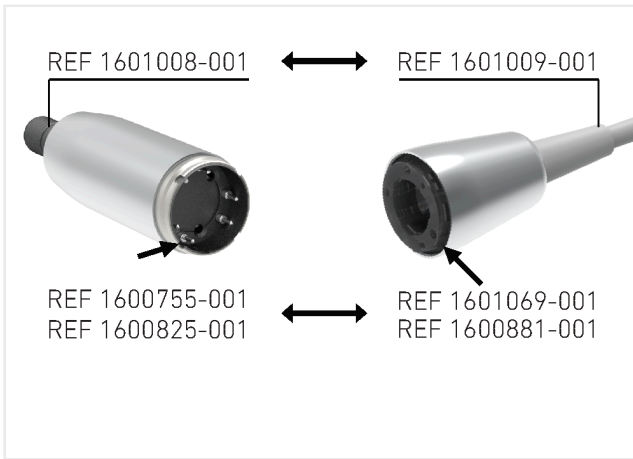
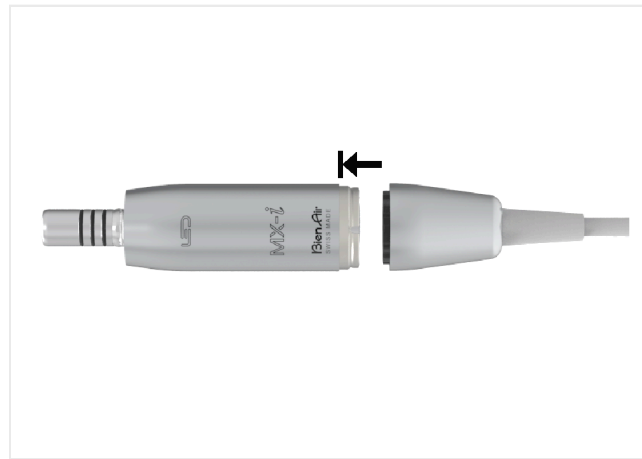

FIG. 2
FIG. 3
1. The motors MOT MX-i REF 1600825-001 & MOT MX-i LED REF 1600755-001 are assembled with the power cable REF 1601069-001 and REF.1600881-001. FIG. 2.
2. The motor MOT MX-i LED 3RD GEN REF 1601008-001 is assembled with the power cable REF 1601009-001 as described in FIG. 2. Check that the rear of the motor and the cable connector are clean and dry.
3. Position the motor and its proprietary cable as shown in FIG. 2 (The locator must be in front of the hole). Rotate it to find the exact position and push in the motor. FIG. 3.